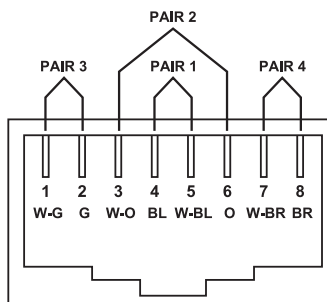
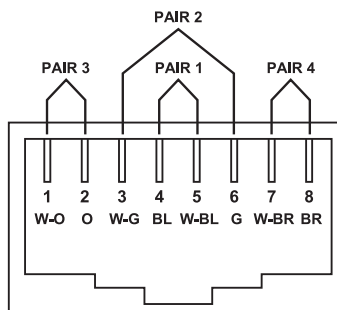

FIGURE 5-2. T568A CONNECTOR PINOUT
FIGURE 5-3. T568B CONNECTOR PINOUT
RJ-45 – The Registered Jack (RJ) physical interface is what connects the network cabling (CAT5e/6/7) to the local extender and remote extender. You may use either the T568A scheme (Table 5-1, Figure 5-2) or the T568B scheme (Table 5-2, Figure 5-3) for cable termination because the extender uses all four pairs of the cable. RJ-45 connectors are sometimes also referred to as 8P8C connectors.